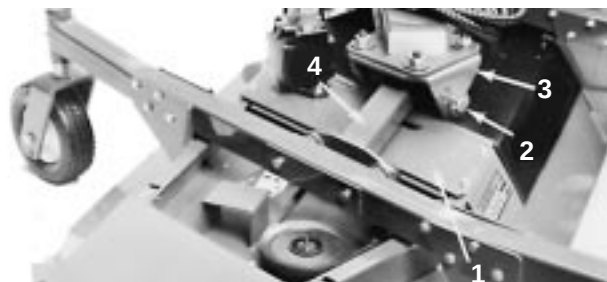

Figure 7
2. Remove flange head screws securing gearbox plate to deck. To separate plate and drive motor assembly from deck, rotate plate end toward traction unit (Fig. 7). Tip plate, motor and pulley assembly on its side and remove from deck. Be careful not to bend, twist, kink or damage flexible hydraulic lines.
3. Remove locknut securing deck pivot shaft into deck clevis and lift bar (Fig. 7).